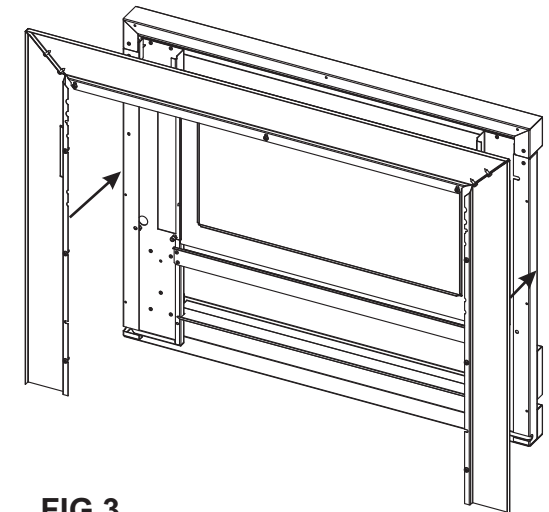

FIG 3.
3. Locate mounting holes on the rear of the heater fascia. Align the mounting holes and secure surround into position. Use No8 x 3/8" self tapping screws. **See Fig 3.**